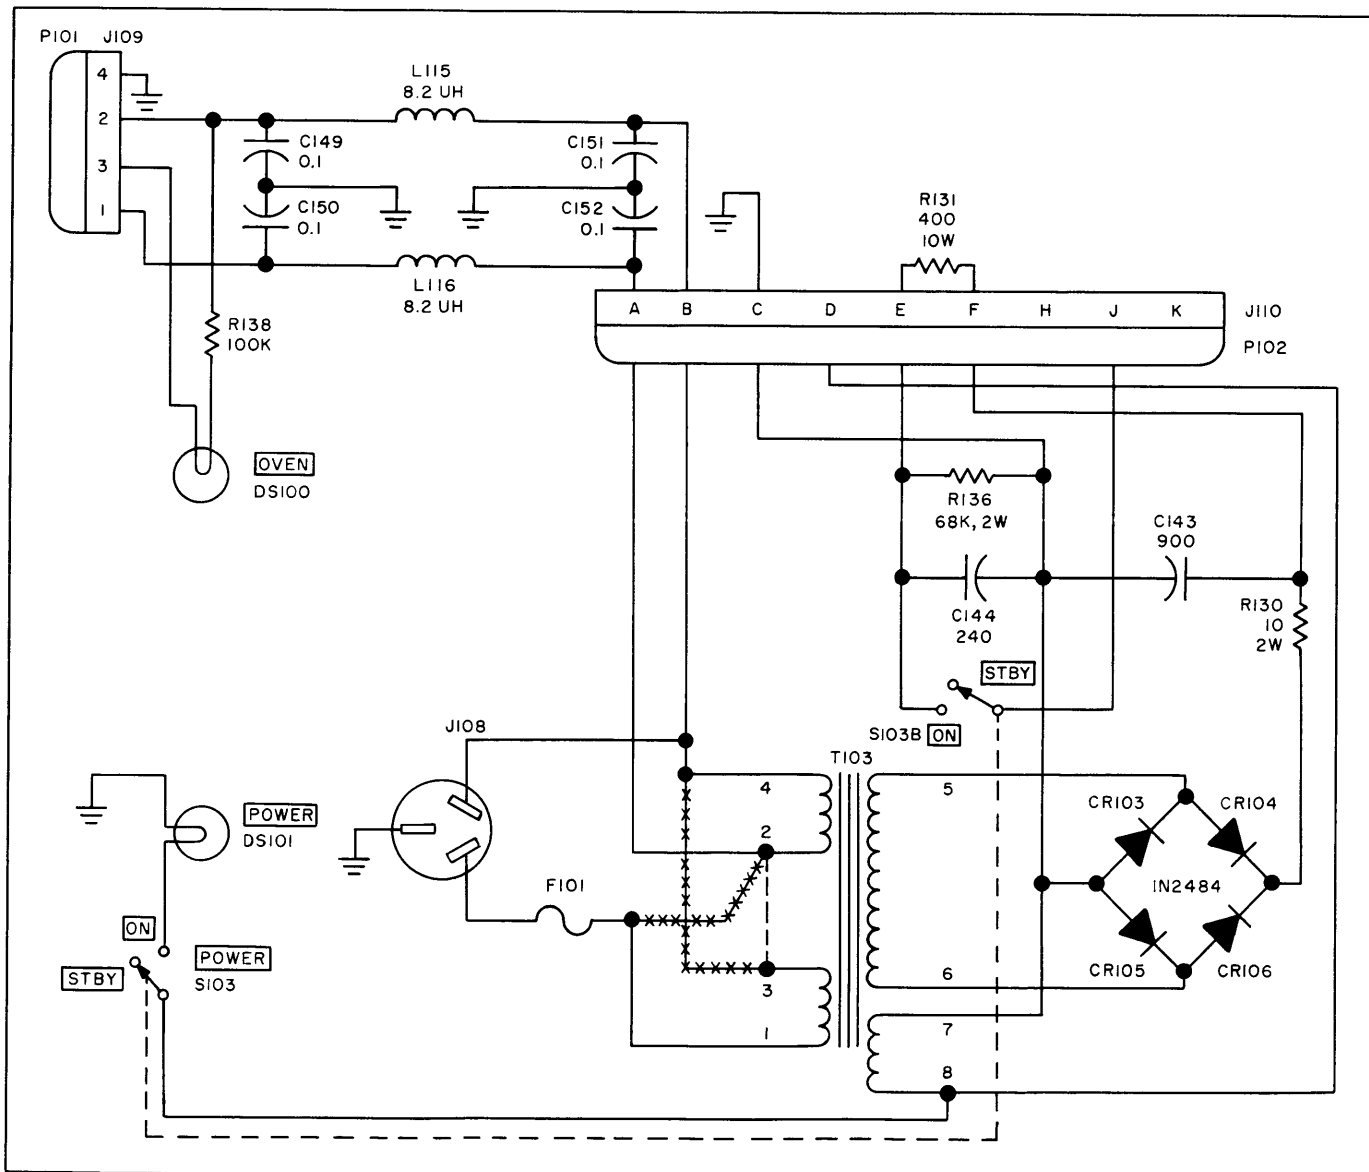

Figure 4-2. Simplified Schematic of Power Supply
a. CIRCUIT ANALYSIS. (See figure 4-2.) - This self-contained power supply produces the operating voltages for the tubes found in this unit and it is designed to work with either a 115- or 230-volt source. For purposes of discussion, however, we'll assume the power supply is working off 115 vac.